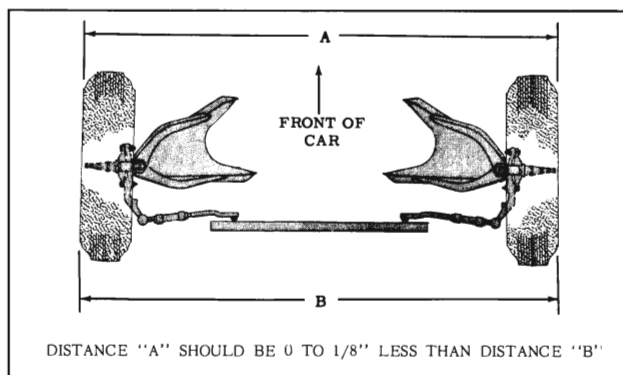

Fig. 5-117 Front Wheel Toe-In
3. TOE-IN (Fig. 5-117)
2. With steering wheel set in straight ahead position, turn tie rod adjusting sleeves to obtain the proper Toe-In adjustment at curb load, 1/16". (Fig. 5-117)